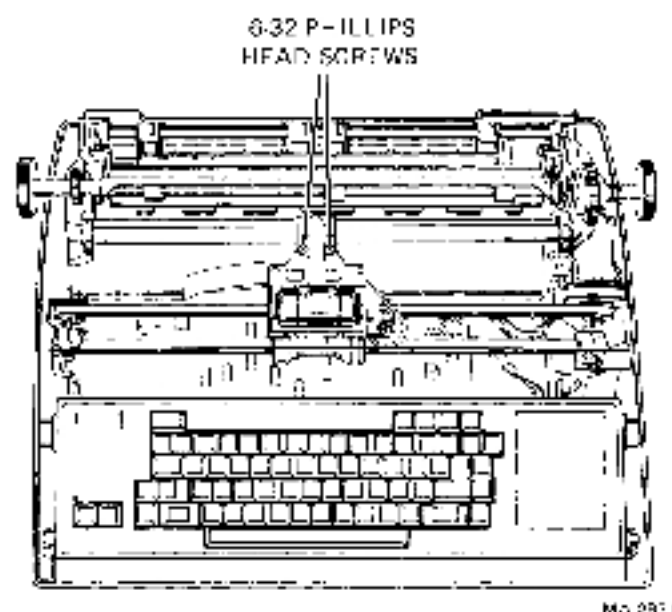

Figure 7-11 Printhead Removal
7. Remove the two (6-12) screws, spacers, flat washers and springs that secure the printhead to the carriage assembly (Figure 7-11).